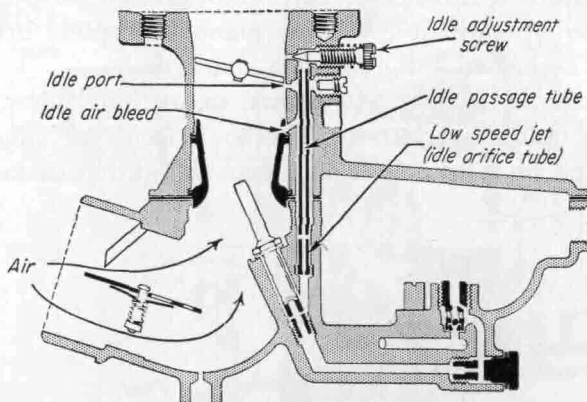

FIG. 5-11. Idle circuit in updraft carburetor. (Carter)
2. *Idle circuit.* The idle circuit in the updraft carburetor (Fig. 5-11) operates in much the same way as the idle circuit in the downdraft carburetor. It includes an idle-passage tube connecting the float bowl with the idle ports, an idle adjustment screw, idle air bleed, and idle ports. When idling with a closed throttle, fuel is delivered past the pointed tip of the idle adjustment screw. If the throttle valve is opened a little so that its edge moves past the secondary idle port, then it, also, begins to deliver fuel. Air from